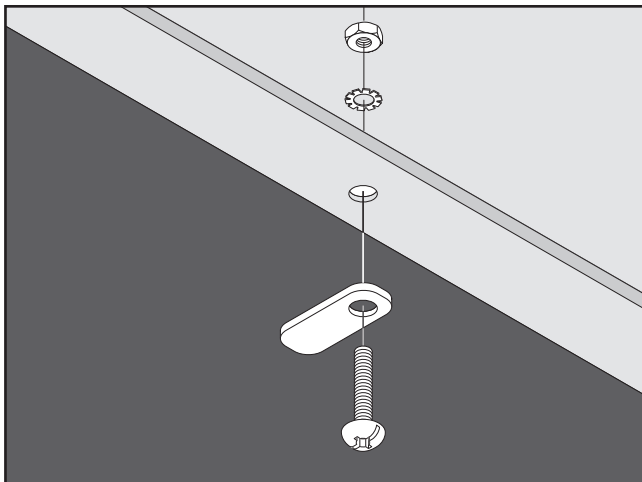

Figure 11. Dust port installation.
2. Secure the toggle tabs to the saw with the Phillips head screws, the hex nuts, the star washers as shown in **Figure 11**. Note—Make sure the toggle tabs are accessible from under the tablesaw.